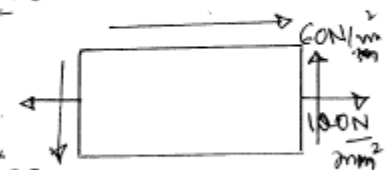

Fig. 11 Q.5(b)
- vii)** The relationship between Shear force (V) and Bending moment (M) is given by the differential _____
- (b)** The shear and normal stresses on a cross section of a beam are shown in the Fig. 11. Find the Principal stresses and direction of Principal planes. **07**